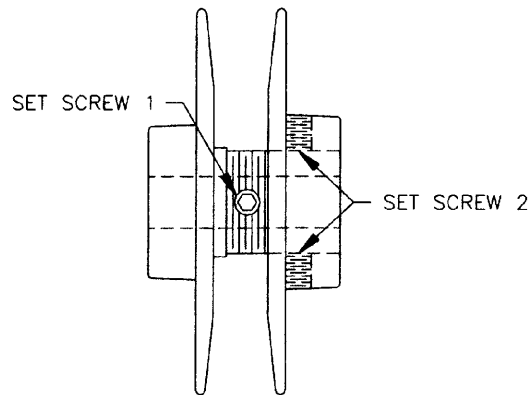

FIGURE 2
2. Tighten the set screw that locks the pulley to the motor shaft. See Fig. 2, set screw 1.
3. Loosen the set screw to allow one side of the motor pulley to rotate. See Fig. 2, set screw 2.
6. Tighten set screw - be sure set screw is on a flat before tightening. See Fig. 2, set screw 2.